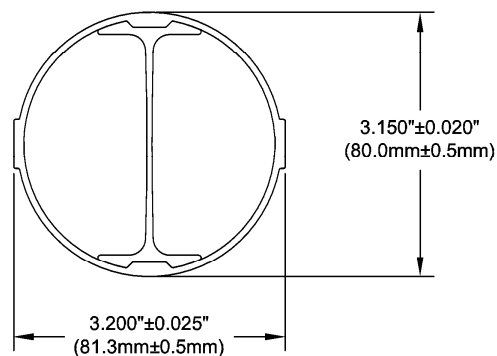

Figure 5-3 – Acceptable Limits
- skidtube dimensions beyond the limits shown in Figure 5-3 (adjust limits for corrosion/wear as described in item 5.2.1 above)